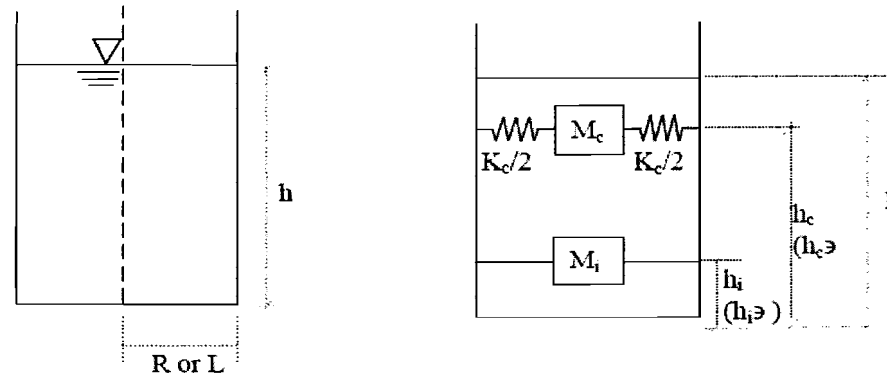

Figure 1: Description of tank dimensions and mechanical model
- The low-frequency ground motion follows RG 1.60 ground spectra anchored to 0.3 g (Fig. 1)
RG 1.60 Spectrum Anchored at 0.30 g (Fig. 1)